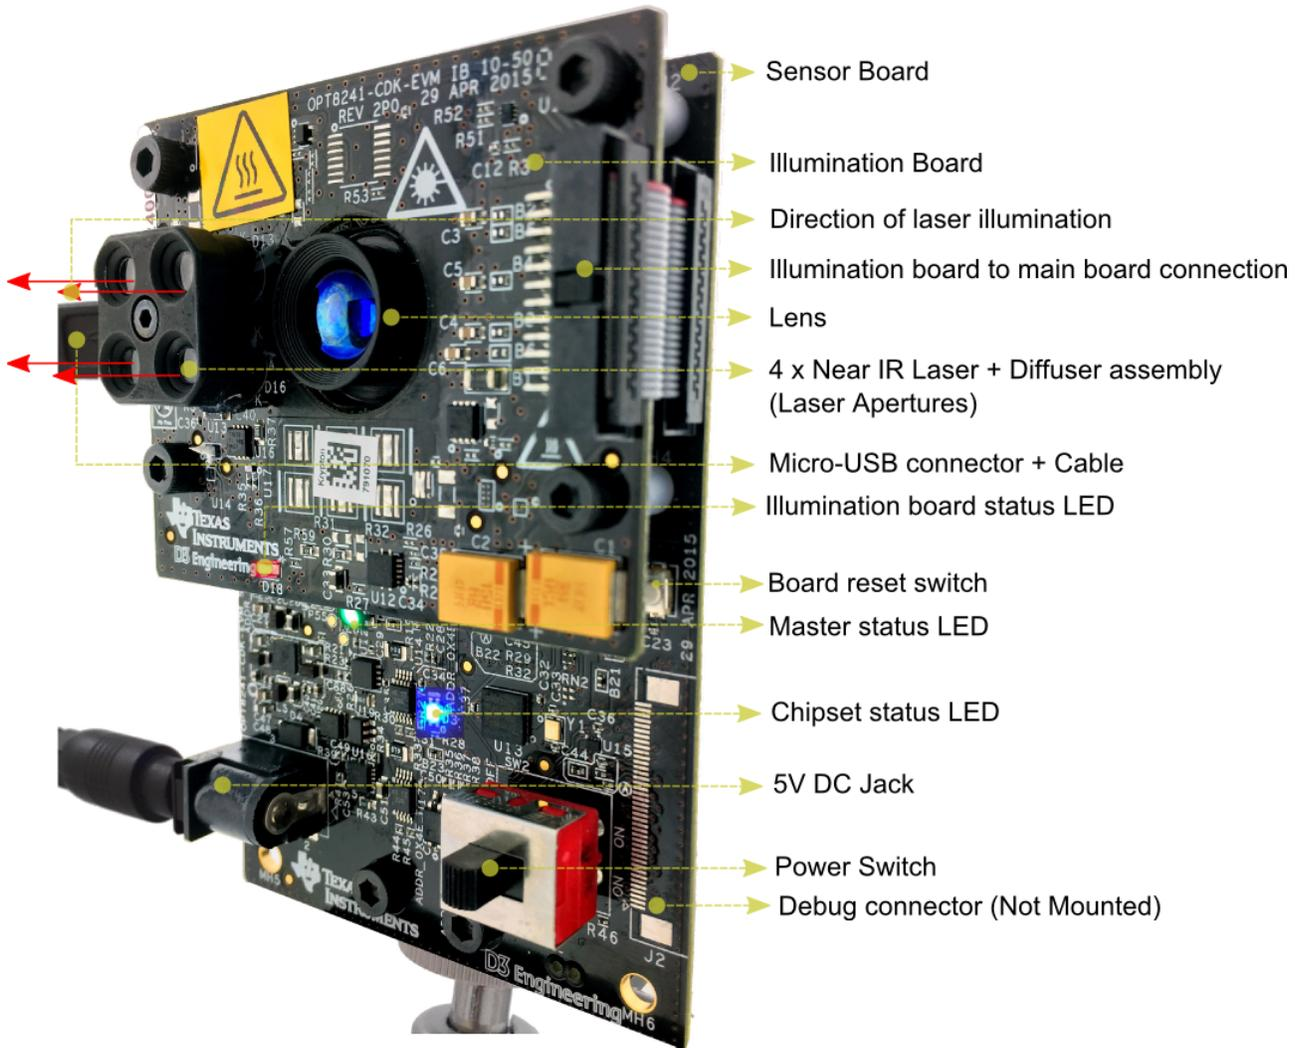

Figure 1. Components of EVM
The OPT8241-CDK-EVM is the official evaluation module for the second-generation 3D Time-of-Flight (3D-ToF) sensor from Texas Instruments. This document describes the kit contents and the basic setup of the EVM hardware and software. The EVM showcases the high-performance QVGA resolution 3D Time-of-Flight sensor OPT8241 with its companion Time-of-Flight Controller OPT9221. Figure 1 highlights the important components of the EVM.
2. Verify that the EVM is in a fully-assembled state, as shown in Figure 1.